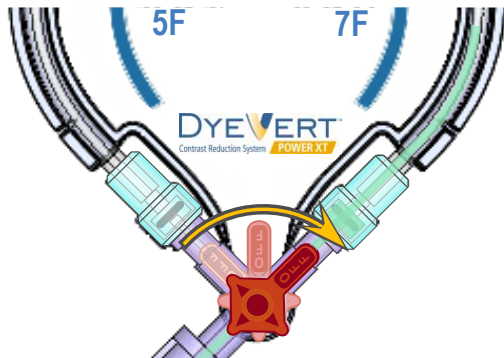

Figure 2 – Opposite Side Diversion Path Priming
- 6) Turn the *Valve Selection Stopcock* to the other valve position. (See Figure 2)